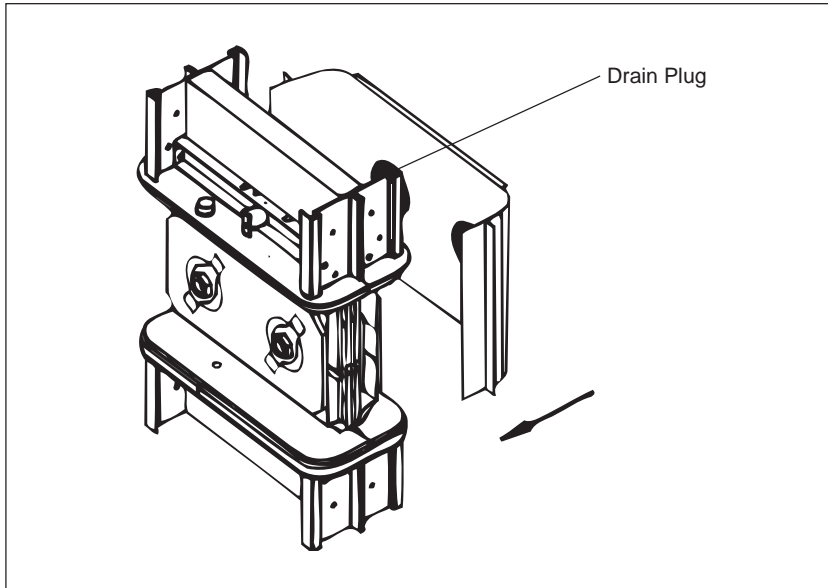

Figure 24
6. Install the bottom cover section (figure 24).